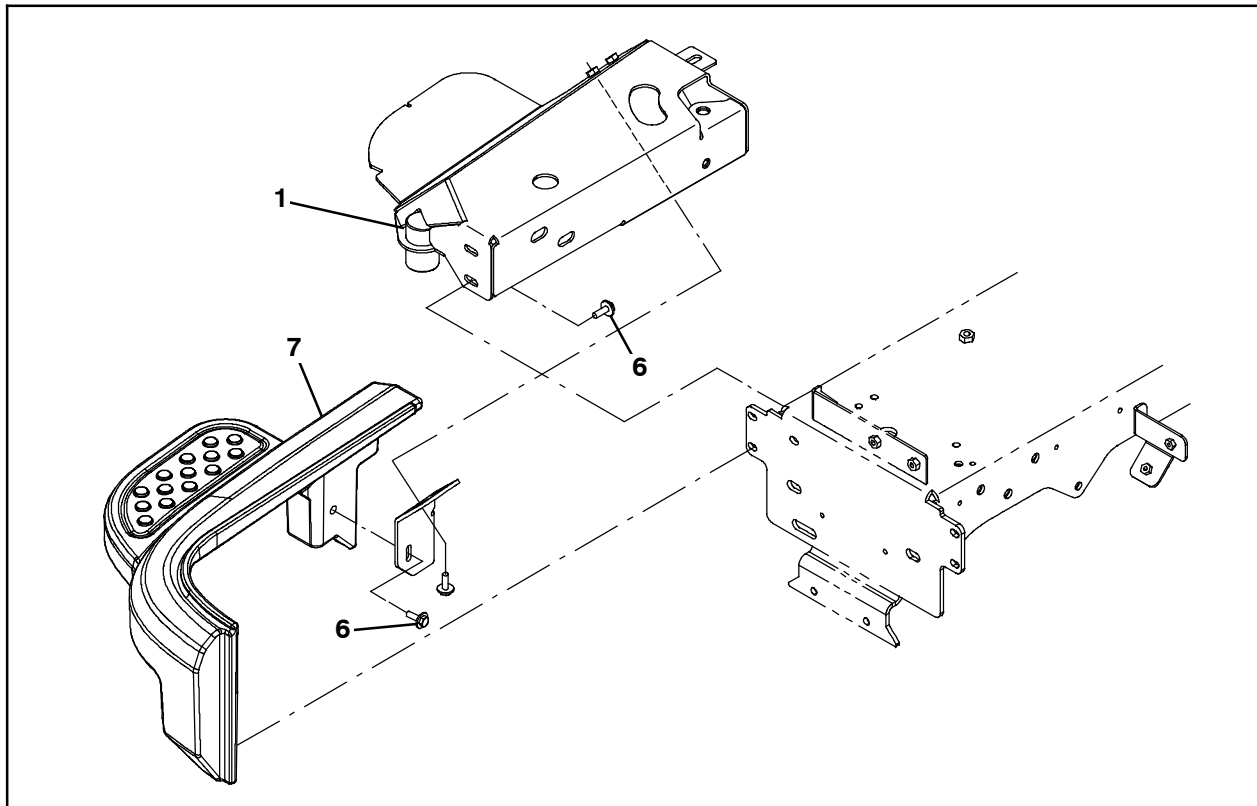

FIG. 30
57. Use three SEMS M8 hex screws (6) to install the side brush bumper (7) onto the machine. (Fig. 30)